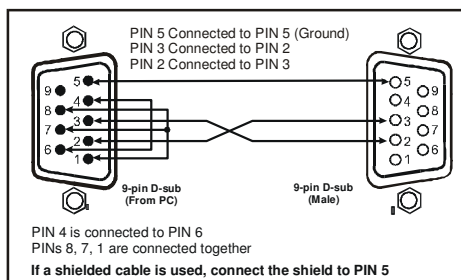

Figure 3: Connecting a PC without using a Null-modem Adapter
- Connect the RS-232 9-pin D-sub port on your PC to the RS-232 9-pin D-sub rear panel port on the **VM-24HDMI**, as Figure 3 illustrates